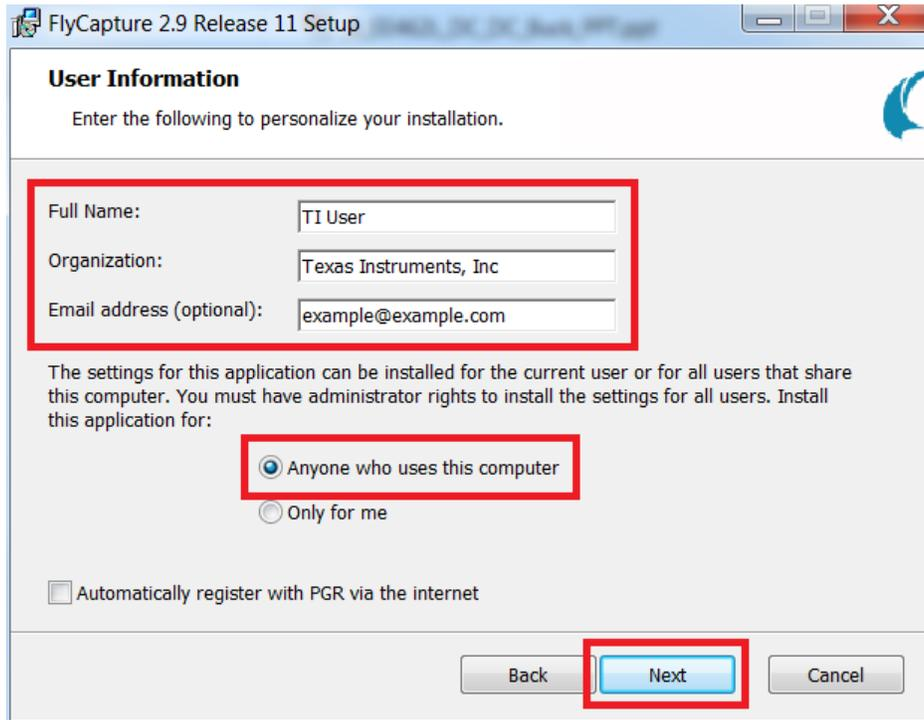

Figure 2-6. FlyCapture2 SDK User Information
6. Fill out the required Name and Organization fields and click the "Next" button, shown in Figure 2-6, to proceed with the installation.